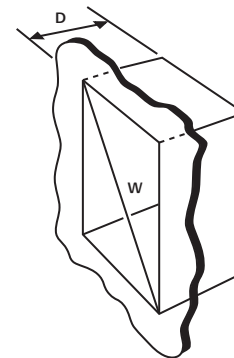

Figure 2
2. Review complex sections and part details. Figure 2 shows the local area of complexity.